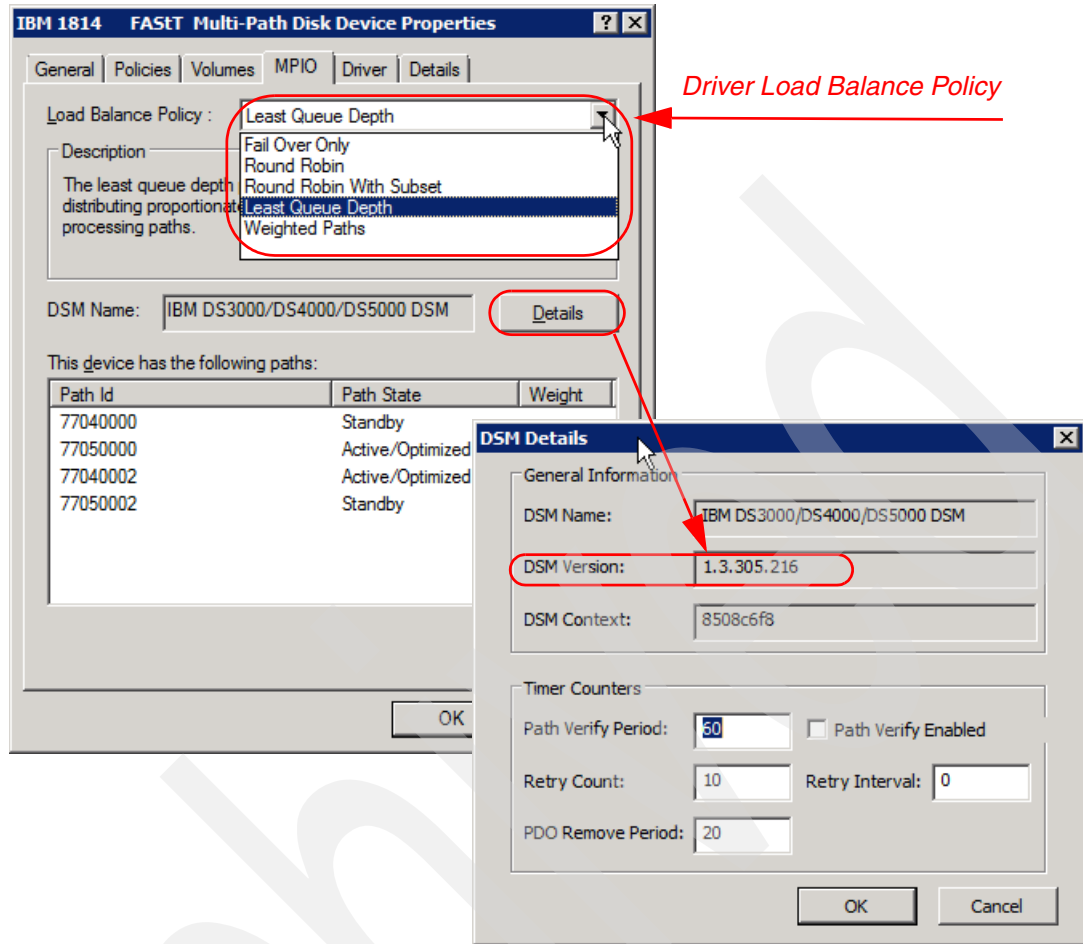

Figure 4-13 MPIO Device Paths Load Balance policy
2. Select the **MPIO** tab to display the various paths to the DS Storage System. From the same Properties window, you can set the various **Load Balance** policies for the MPIO driver. Depending on the current physical path state and the policy selected, the paths are either both Active (round robin, weighted paths), or one is Active and the other is Standby (Fail Over, Least Queue Depth). See Figure 4-13.